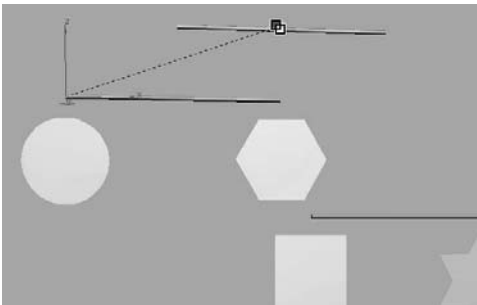

Figure 2.40
- f. Link from the bar above the circle and hexagon to the top bar, as shown in Figure 2.40.